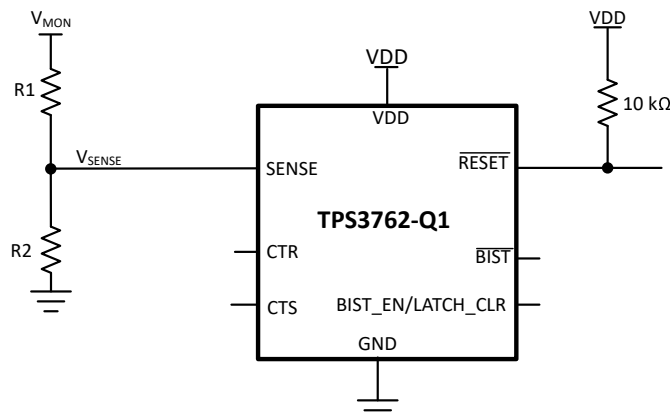

Figure 11-1. Adjustable Voltage Threshold with External Resistor Dividers
Figure 11-1 illustrates an example of how to adjust the voltage threshold with external resistor dividers. The resistors can be calculated depending on the desired voltage threshold and device part number. TI recommends using the adjustable (0.8V voltage threshold device) when setting adjustable voltage thresholds. This variant bypasses the internal resistor ladder.
For example, consider a 12V rail, V_{MON} , being monitored for overvoltage (OV) using of the TPS3762D02OVDDFRQ1 variant, as shown in Figure 11-1. The monitored OV threshold, denoted as V_{MON+} , is the desired voltage where the device asserts the reset. For this example $V_{MON+} = 35V$. To assert an overvoltage reset the voltage at the sense pin, V_{SENSE} , needs to be equal to the input threshold positive, V_{ITP} . For this example variant $V_{SENSE} = V_{ITP} = 0.8V$. Using R_1 and R_2 the correlation between V_{MON+} and V_{SENSE} can be seen in Equation 8. Assuming $R_2 = 10k\Omega$, and R_1 can be calculated as $R_1 = 427.5k\Omega$.